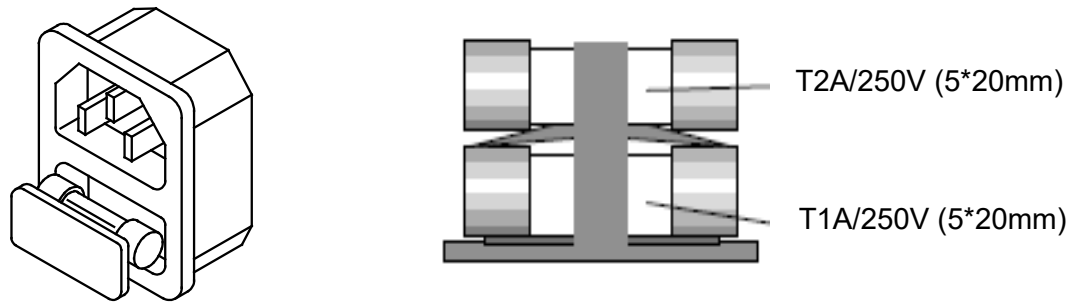
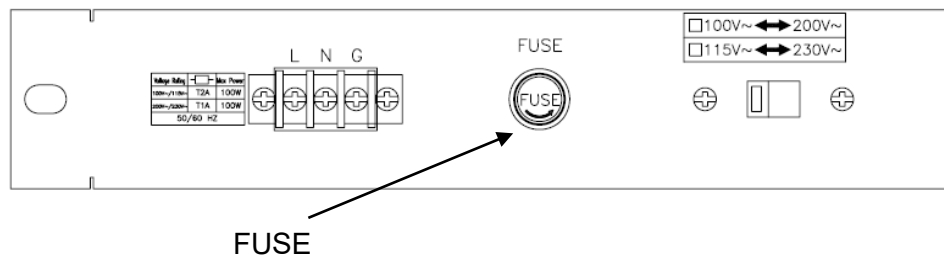

Fig 2-3 33431G FUSE RECEPTACLE
Fig 2-4 33432G FUSE RECEPTACLE
2.3.2 The AC line fuse is located below the AC line receptacle 33431G see Fig 2-3,33432G see Fig2-4. Use a small screwdriver to extract the fuse holder, to change a new one. Change an appropriate specification fuse which indicated Table 2-1.